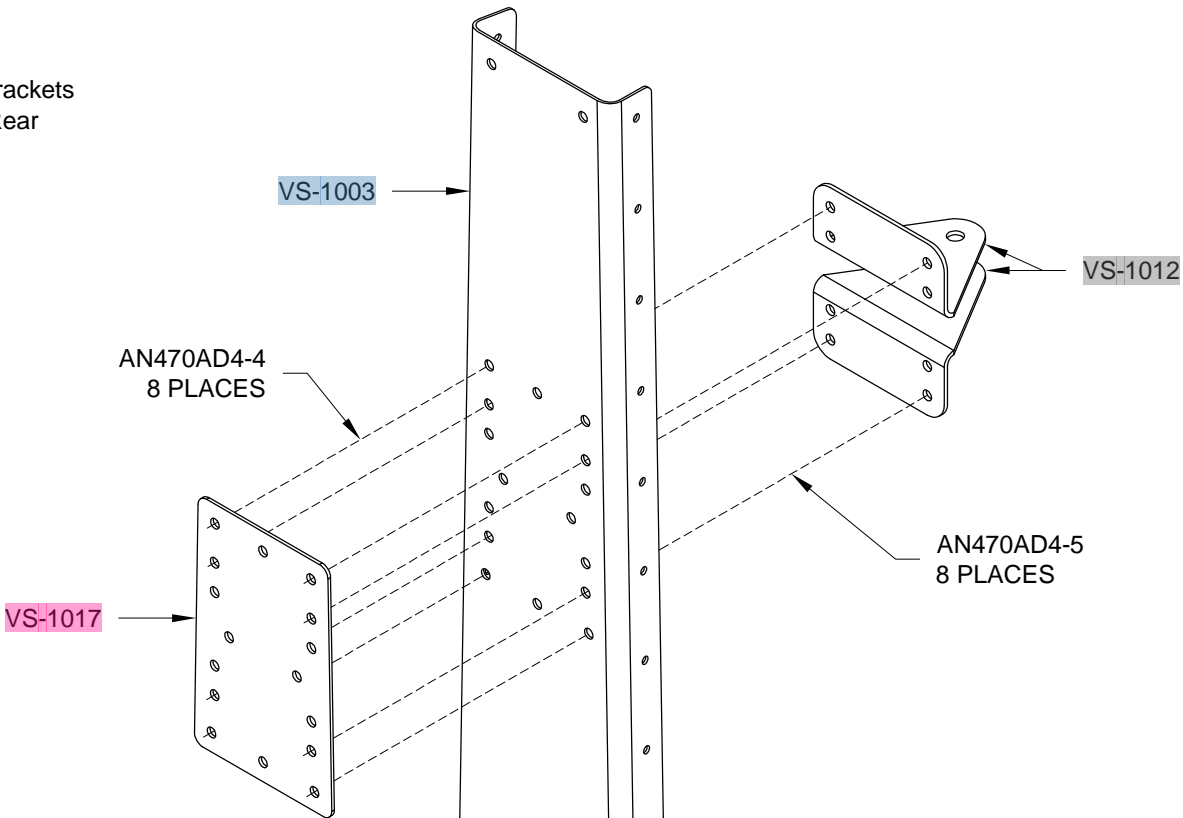

FIGURE 2: TOP RUDDER HINGE BRACKET AND HINGE DOUBLER RIVETS
Step 6: Reassemble the rest of the Rear Spar Assembly (except for the VS-01010-1 Bottom Rudder Hinge Bracket) as shown on Page 6-2, Figure 2. Make sure the countersunk holes at the bottom of the VS-1008 Rear Spar Doubler are facing forward.